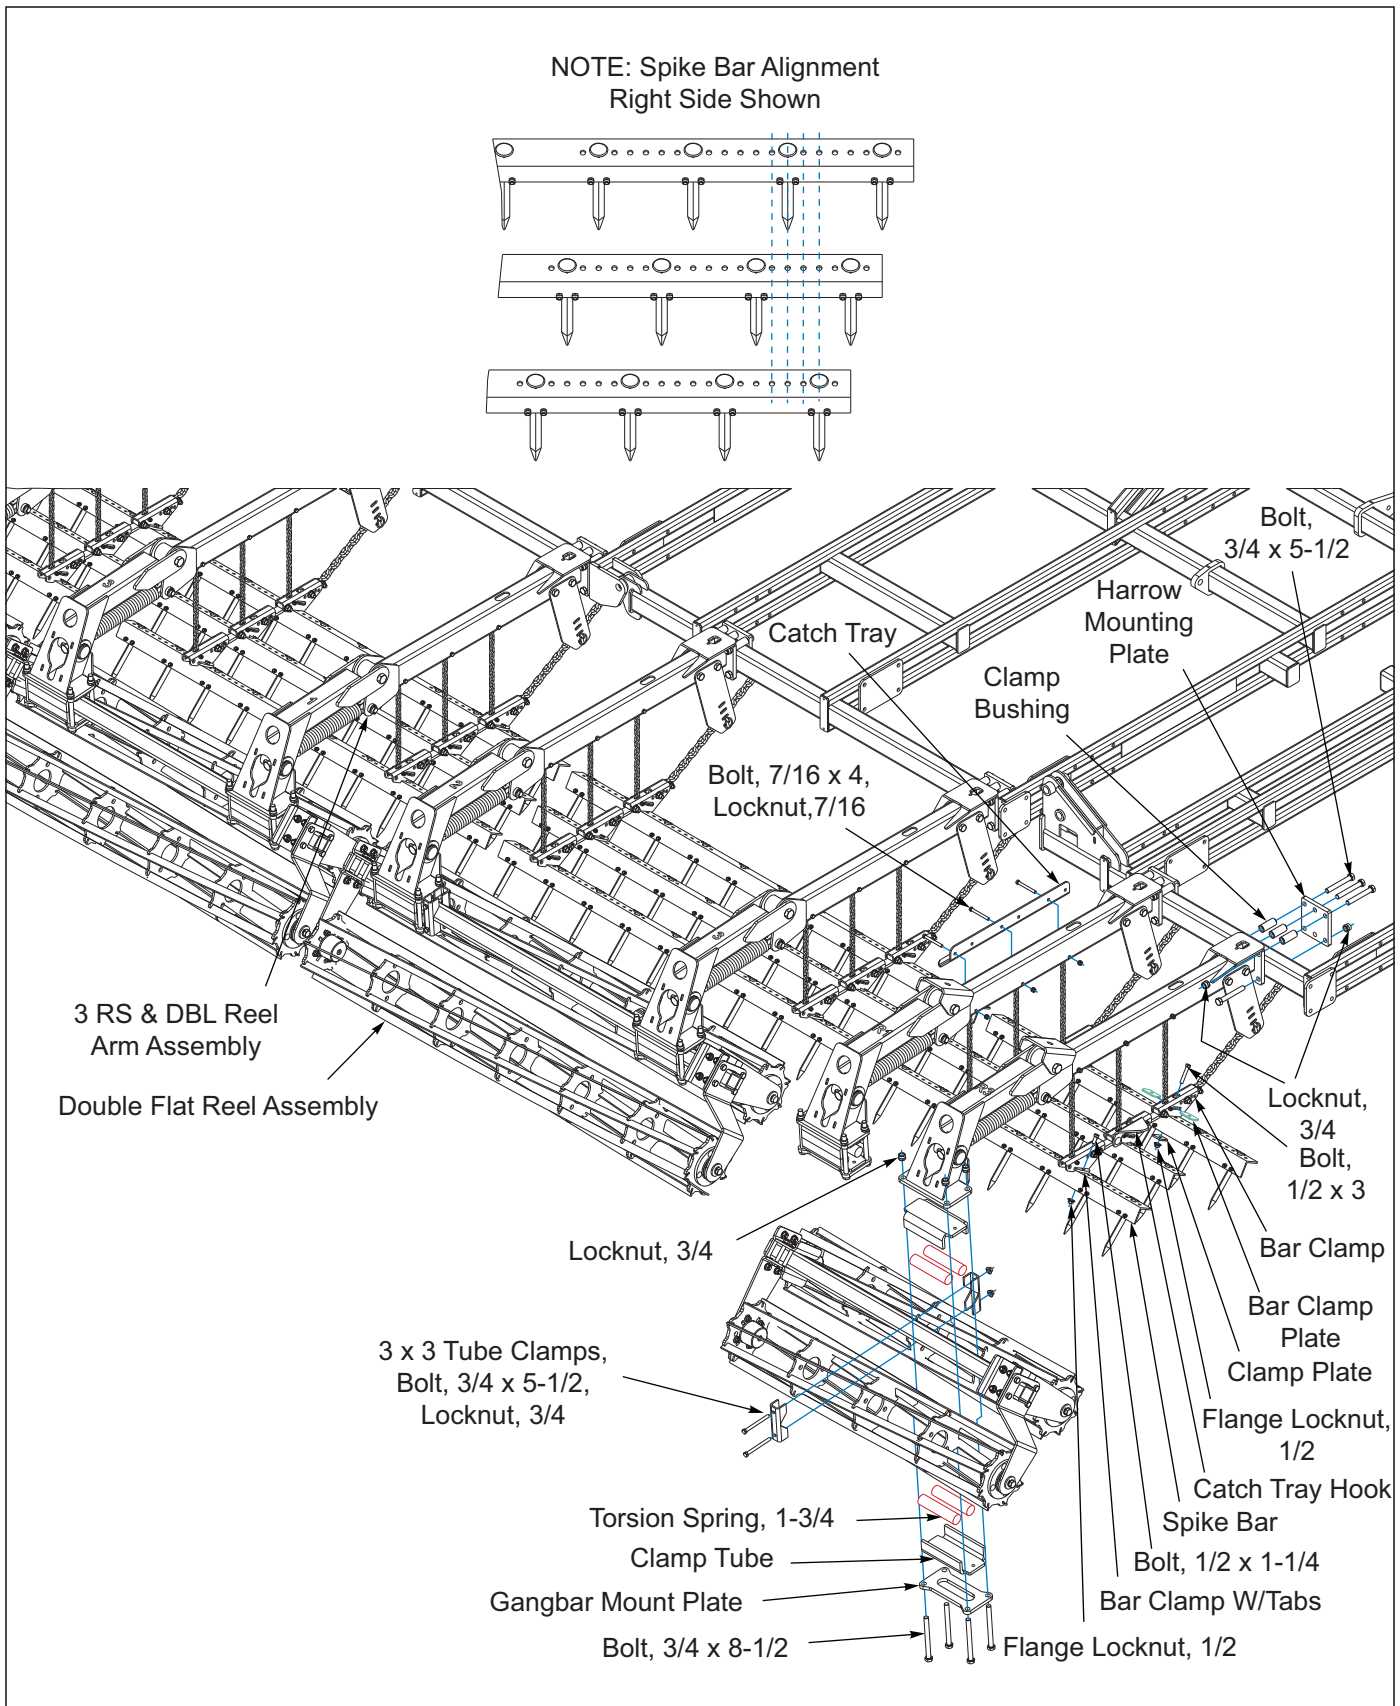

Figure 3-37: 3RS DBL Flat Reel Installation
1. Attach the 3 RS arm assemblies to the rear tube of the center and wing frames using harrow mounting plates, 3/4 x 5-1/2 bolts, clamp bushings and 3/4 locknuts **See Figure 3-37**.
2. Refer to spike bar alignment **See Figure 3-37** for proper alignment of spike bar assemblies. Be sure they are aligned properly on both right and left side of each section.